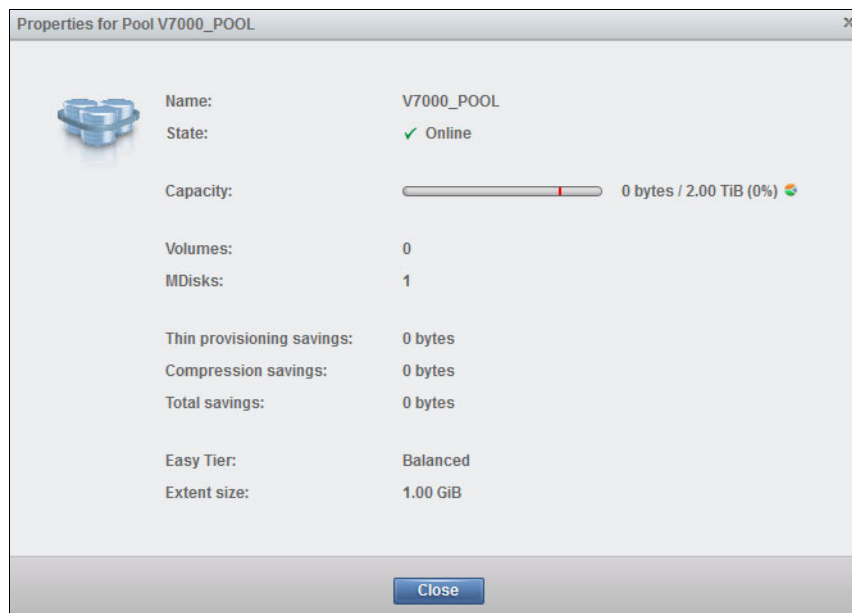

Figure 5-1 Viewing pool properties
1. Click **Pools** → **MDisks by Pools**, select the pool, right-click it, and select **Properties**. Figure 5-1 shows the properties of V7000_POOL, and the extent size is 1 GiB.
The determination of the source MDisk group is shown in Figure 5-1 on page 66 and in Example 5-1 on page 67.